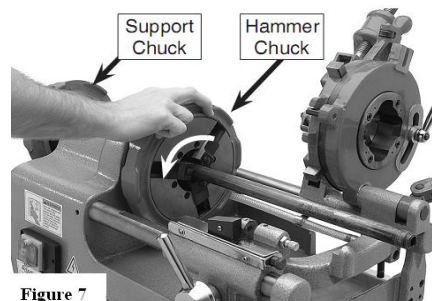

Figure 7. (Slamming hammer chuck to lock it on the pipe)
C) Close the hammer chuck until it grips the pipe evenly with all jaws, then open it about a 1/4-1/2 turn, and slam it closed, as shown in Figure 7, Hold the pipe in right hand, and fix it by wheeling tight the fore and rear chucks, and then moderately tighten the hammer disk by hammering it counterclockwise.